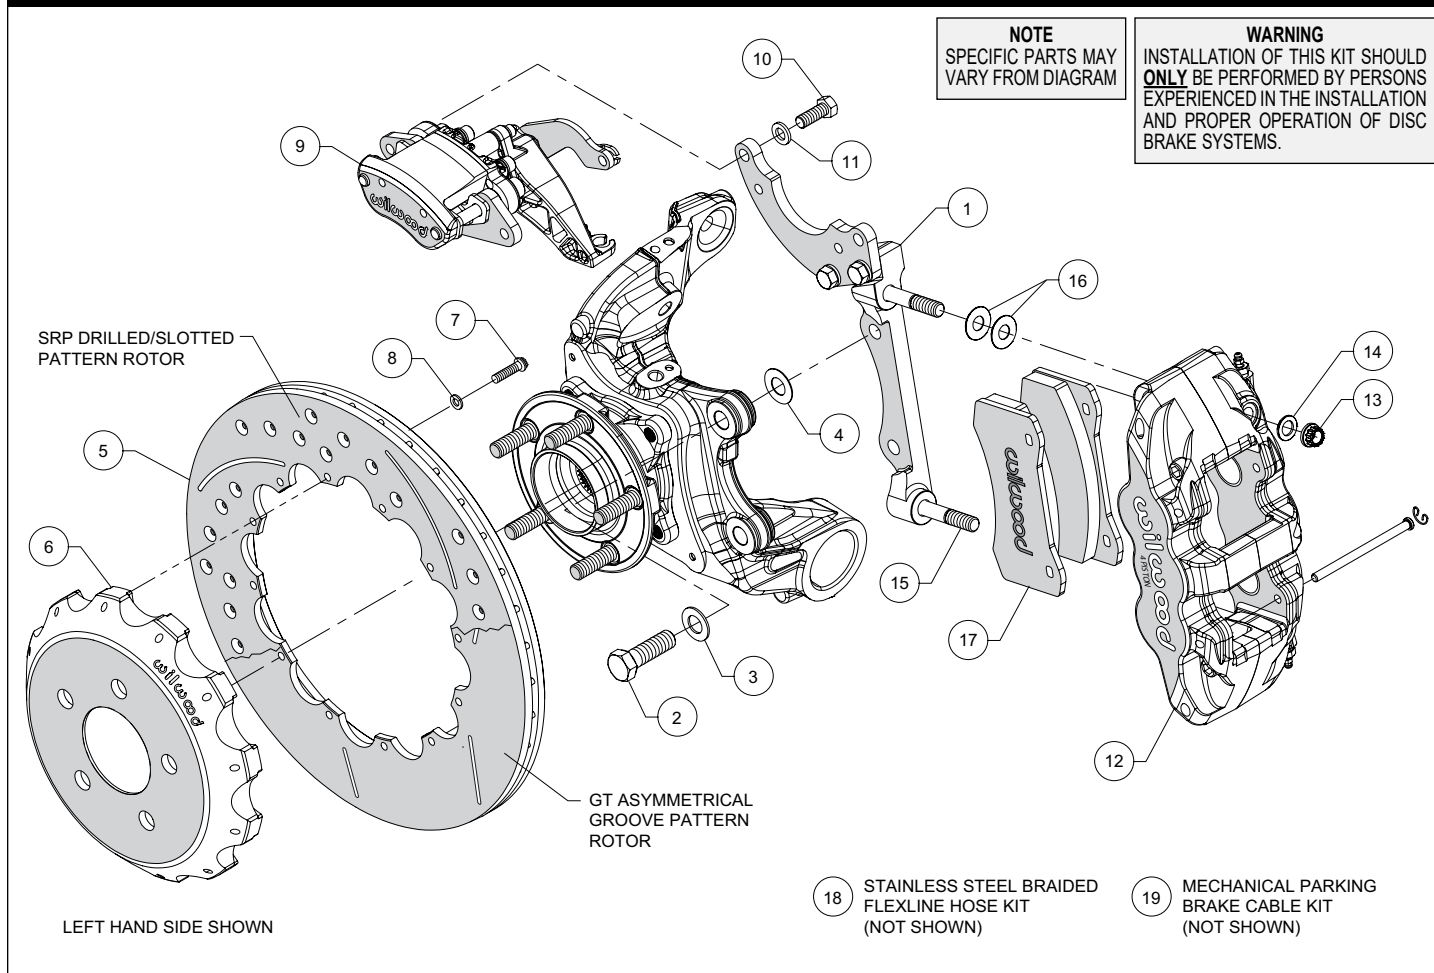
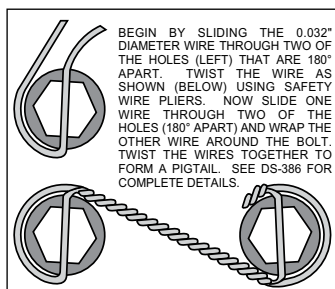

Figure 1. Typical Installation Configuration
Figure 3. Safety Wire Diagram
Assembly Instructions (numbers in parenthesis refer to the parts list and Figure 1 on the preceding pages):
- The caliper mount bracket (1) should initially be installed with clean, dry threads on the mounting bolts. Orient the bracket as shown in Figure 1, and Photo 1, and install using bolts (2) and washers (3). Initially place one .029" thick shim (4) on each bolt between the bracket and upright, Figure 1. Temporarily tighten the mounting bolts. **NOTE: The bracket must fit squarely against the mount bosses on the upright.** Inspect for interference from casting irregularities, machining ridges, burrs, etc. Later, after the caliper alignment has been checked, the mount bolts will be secured using red *Loctite*® 271.
- Orient the rotor (5) and the hat (6) as shown in Figure 1 and Photo 2. Attach rotor to hat using bolts (7) and washers (8). Apply red *Loctite*® 271 to the bolt threads and torque to 155 in-lb using a criss-cross pattern. For an added measure of security, the bolts may be safety wired using standard 0.032 inch diameter stainless steel safety wire as shown in Figure 3. Please refer to Wilwood's data sheet DS-386 (available at www.wilwood.com/Pdf/DataSheets/ds386.pdf) for complete safety wire installation instructions.
- Lubricate the caliper mounting studs (15) with lightweight oil. Initially place two .030" thick shims (16) on each stud as shown in Figure 1 and Photo 4. Mount the caliper (12) onto the bracket (1) using lock nuts (13) and washers (14), Figure 1. Temporarily tighten the lock nuts and view the rotor through the top opening of the caliper. The rotor should be centered in the caliper, Photo 5. If not, adjust by adding or subtracting shims (4) between the bracket and the mounting bosses. Always use the same amount of shims on each of the two mounting bolts. Once the caliper alignment is correct, remove the bracket mounting bolts one at a time, apply red *Loctite*® 271 to the threads, and torque to 77 ft-lb.
- Remove the two pad retaining pins from the caliper (12) by carefully popping out the pin retaining clips and sliding out the pins. Insert the brake pads (17) into the caliper from the bottom, Figure 1 and Photo 6. With the friction material facing the rotor, secure the brake pads in place with the pad retaining pins and clips, Photo 7. Reinstall the caliper onto the caliper mounting bracket and temporarily tighten the lock nuts. Check that the top of the brake pad is flush with the outside diameter of the rotor, Photo 8. If not, adjust by adding or subtracting shims (16) between the caliper and the bracket. After the caliper pad height is set, torque the caliper lock nuts (13) to 47 ft-lb.
- Orient the parking brake caliper (9), as shown in Figure 1 and Photo 9, and mount onto the top section of the caliper mounting bracket (1) using bolts (10) and washers (11), Figure 1. **NOTE:**